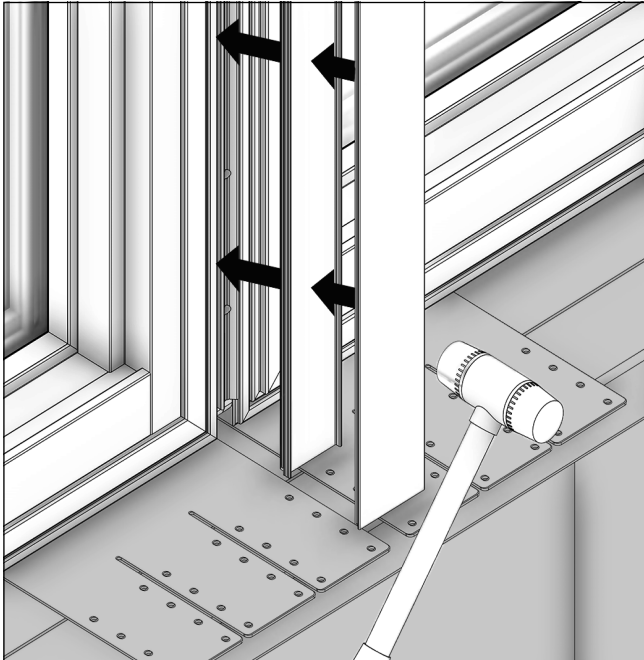

Figure 89
19. Install interior mull cover carriers, seating with a mallet and block if needed. See Figure 89. Install interior covers, same process as exterior, longest first, aligning to edge of drywall return feature.